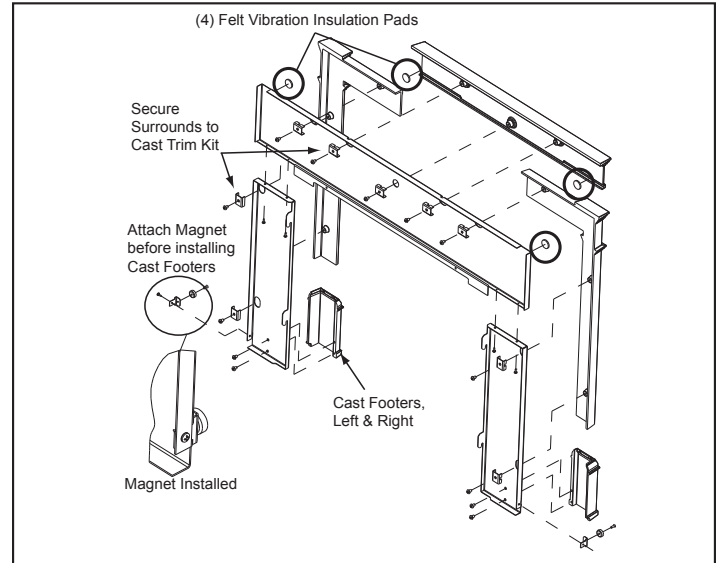

Figure 24.1
1. Place the peel and stick round felt vibration insulation pads on the front side in each corner of the top metal piece and on the back side in each corner of the top cast piece. **Figure 24.1**
a) Place corresponding cast trim pieces (2 cast trim sides and 1 cast trim header) underneath the surround set, also face down. Align the holes in the metal pieces with the 5 bosses on the top cast piece and 2 bosses on each side piece. **Figure. 24.1**
b) Attach the magnets to the magnet brackets with one countersink screw each. Attach magnet and bracket to the metal surround sides with magnet facing the front as shown in **Figure. 24.1**.